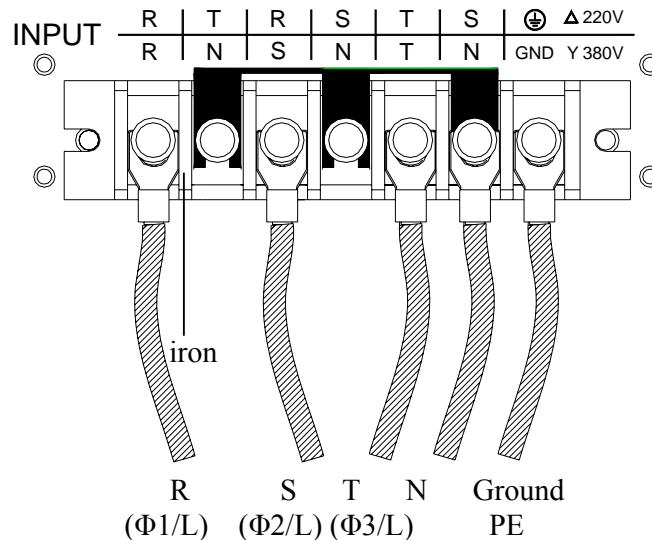

Figure 2-1 380 3~Y Input Connection
See figure 2-1 (on the next page) and do the following things one by one:
2. Select the proper iron and screw the power cord to the input terminal blocks of the AC source (See Figure 2-1 and 2-2)